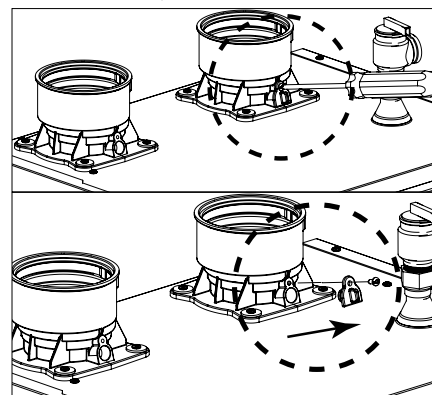

Figure 73 - Combustion Test Port
5. Reinstall the combustion test port - see Figure 73.